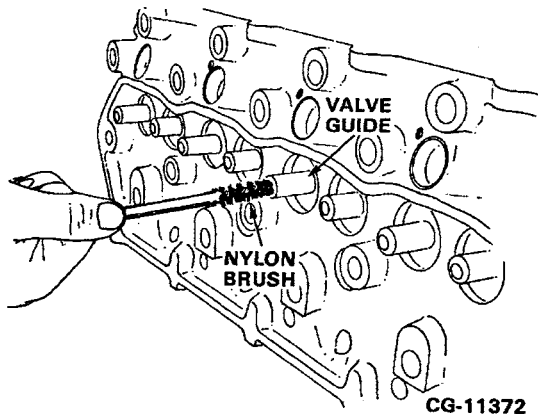

Figure 4.33. Clean Valve Guide Bores
1. With valves removed, clean all valve guides using ZTSE-1300 valve guide cleaner, soap and water. Refer to Figure 4.33.
**NOTE:** Clean valve guides after reaming, as shown in Figure 4.33.